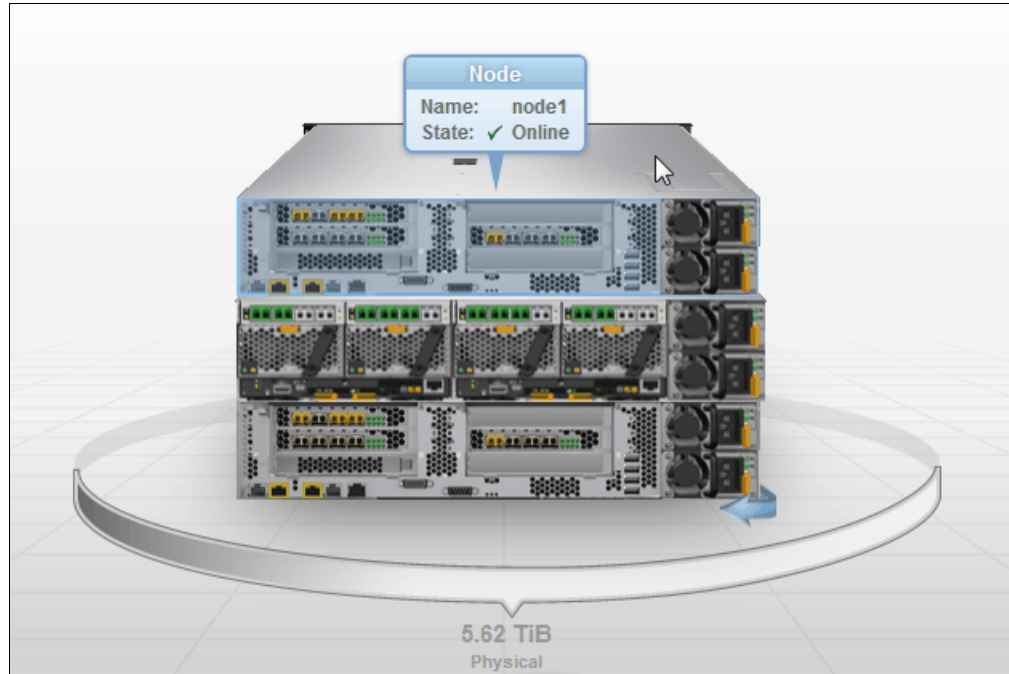

Figure 8-4 Back view of an AC2 control node based single system
1. By clicking the yellow arrow in the lower right corner of the IBM FlashSystemV9000 depiction, the image turns around and shows the system from the back. By moving the mouse to each individual port or device, more information is displayed (Figure 8-4).